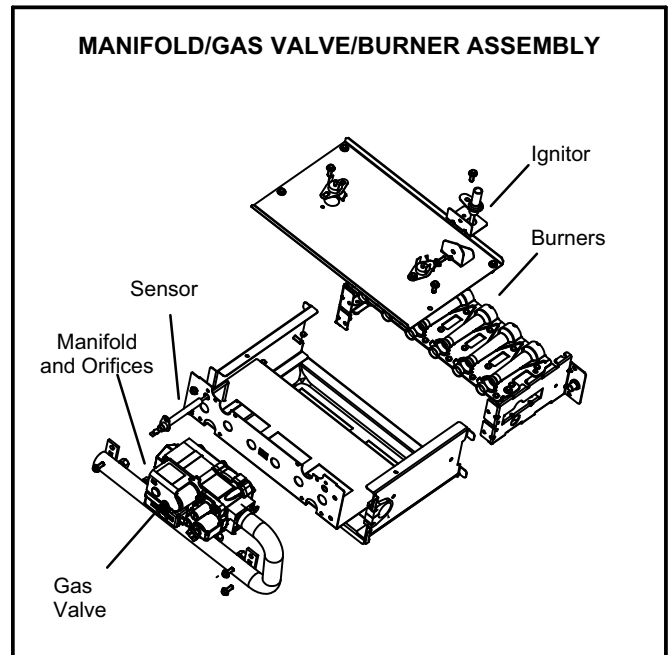

Figure 1
- 5 - Remove the four manifold securing screws. Remove the manifold/gas valve assembly. Replace the main burner orifices with the provided orifices. Torque to approximately 4.6 kgf-m. See figure 1.